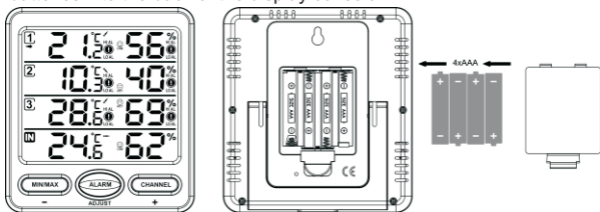

Figure 4
2. Remove the battery door on the back of the display, as shown in **Figure 4**. Insert four AAA (alkaline or lithium, avoid rechargeable) batteries into the back of the display console.